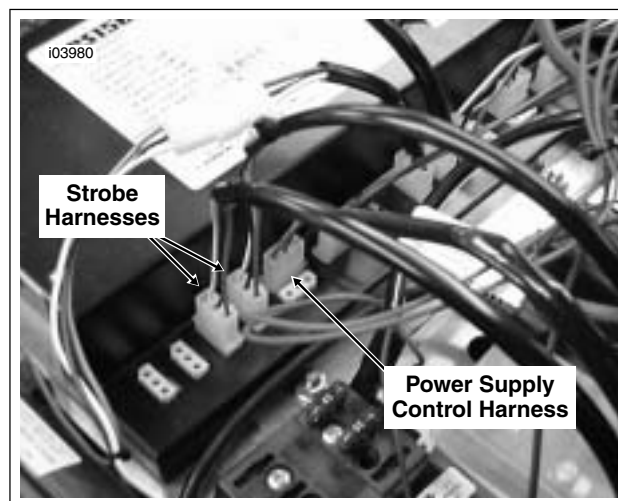

Figure 8-17. Connect Strobes to Power Supply Outlets
20. See Figure 8-17. Connect the strobe harness connectors to the power supply as shown.